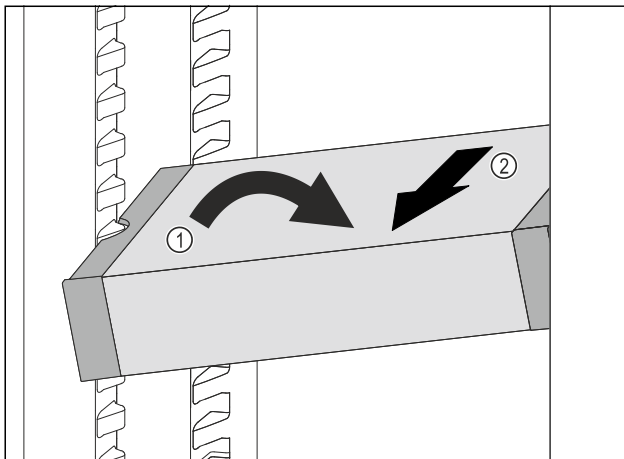

Fig. 127
- Set VarioSafe in refrigerator compartment at an angle. Fig. 127 (1)
- Take VarioSafe out to the front. Fig. 127 (2)